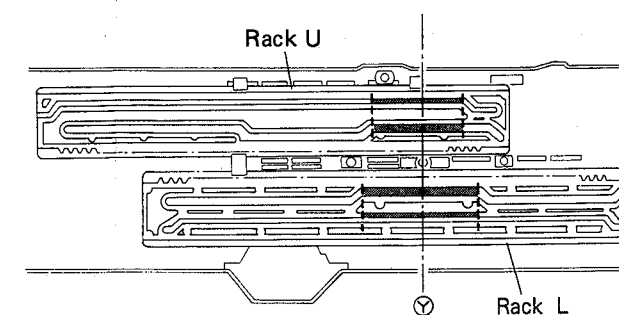

Fig. 3-4
1. Make sure that the positions of rack L and rack U are within the range indicated by the dotted lines in relation to the position of ⑥ in Fig. 3-4. (Position at which U, S, and L switches are all OFF.)